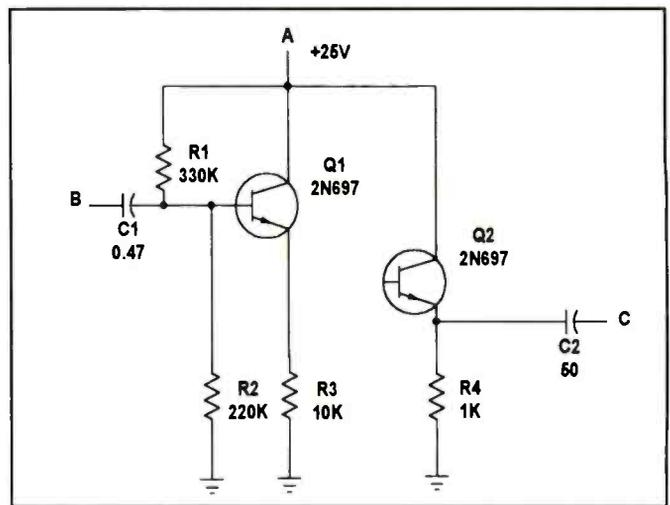

Figure 2. If you create a short between the emitter of transistor Q_1 and to the base of Q_1 , what will happen to the collector voltage?
9. In the circuit of Figure 2, shorting the emitter of Q_1 to the base of Q_1 will cause its collector voltage to